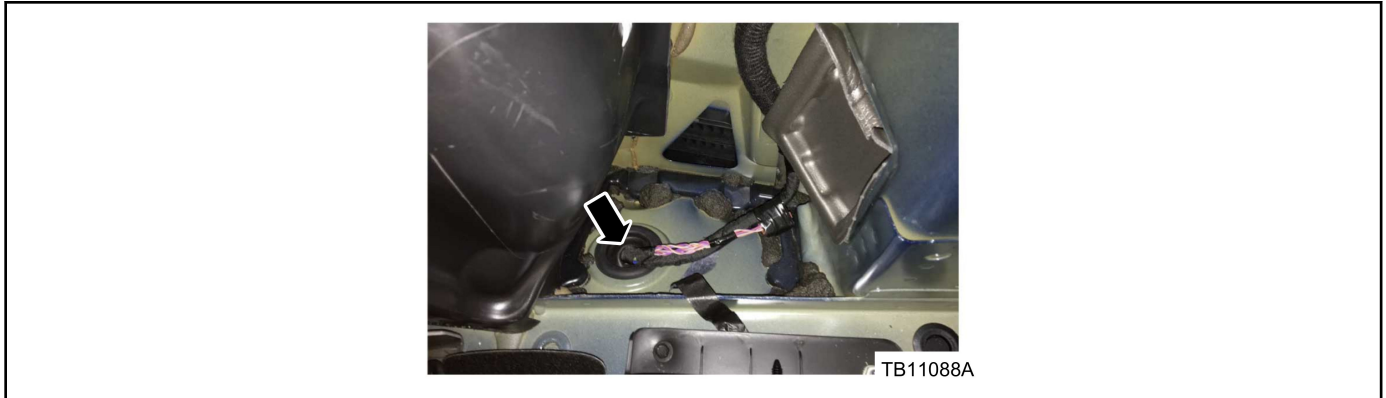

Figure 20 - Article 17-0044
- b. Wrap approximately 6 inches of the wiring harness on the vehicle interior side of the harness up to the grommet using Rotunda Coroplast electrical wire harness tape. (Figure 20)